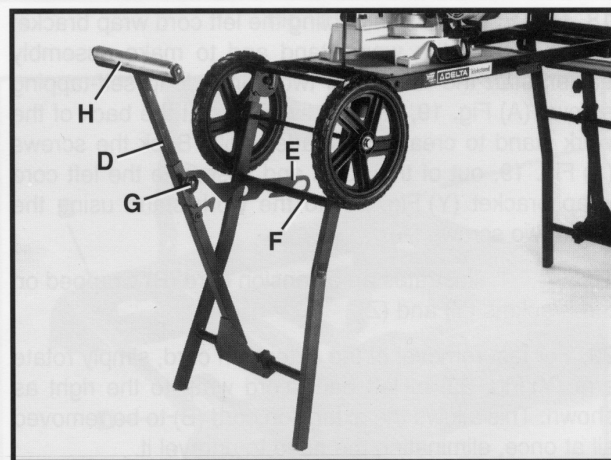

Fig. 26
2. Pull out arm (D) Fig. 26, of roller extension and position one of the three stops in bar (E) onto bar (F).
3. Loosen lock knob (G) Fig. 26, and raise roller (H) to the desired height and tighten knob (G).